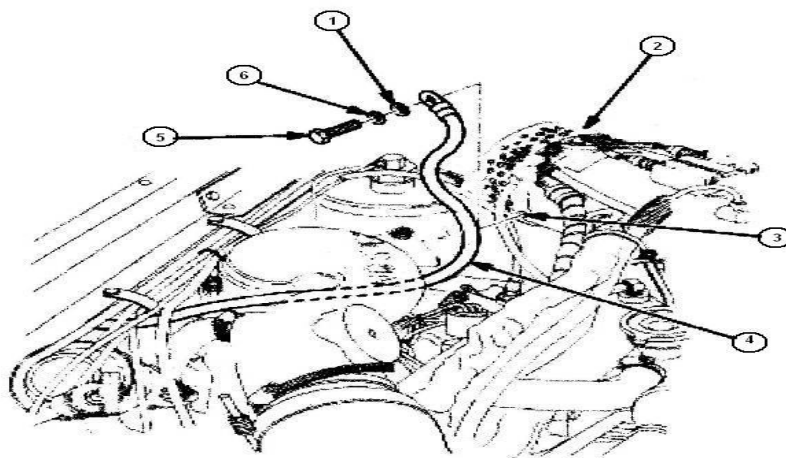

Figure 50
(10) Remove screw (5), lock washer (6), and washer (1) from 400 amp alternator (2) rear negative terminal (3) as shown in **Figure 50**.
(11) Install 12460498-4 cable (4) on 400 Amp Alternator (2) rear negative terminal (3) with washer (1), lock washer (6), and screw (5). **Do not tighten screw (5) at this time.**
(12) Route 12460498-4 cable (4) over engine as shown in **Figure 50**.